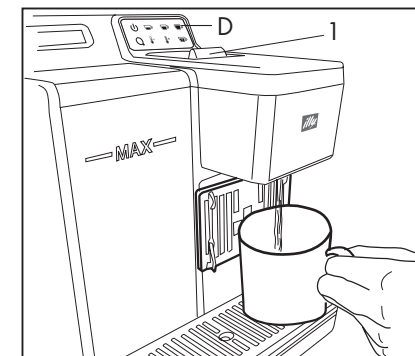

Fig. 13
- Press button (D). **(Fig.13)**
the capsule door (1) must not be opened before starting the washing cycle. **(Fig.13)**